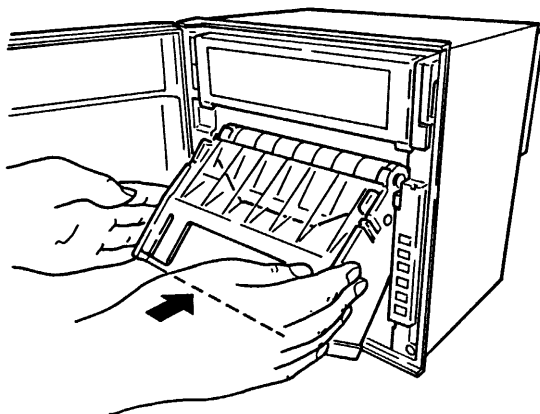

Figure 5.6
- 10 Replace the chart paper compartment back into the unit. Slide the protruding knurls of the chart paper compartment into the cutout grooves located on the support brackets. Push/swing the compartment into the unit until the lock tab clicks shut (see figure 5.6).